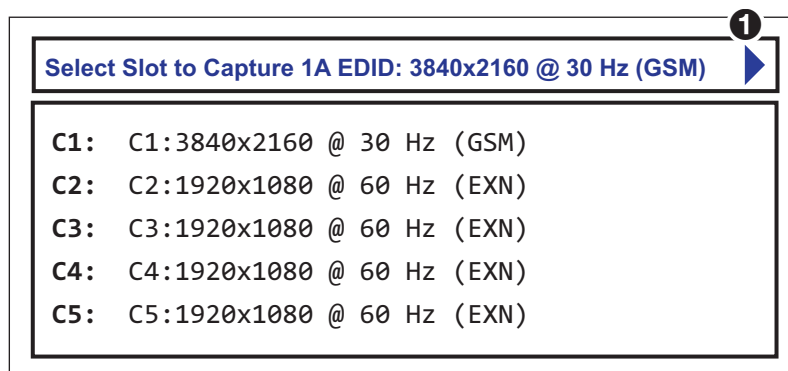

Figure 17. Custom EDID Slots List Example
2. Press the ◀ or ▶ button to select the display (output 1A or 1B) to assign the custom EDID. (The arrow button you press is reflected in the upper-right corner of the screen [see figure 17, ❶]).